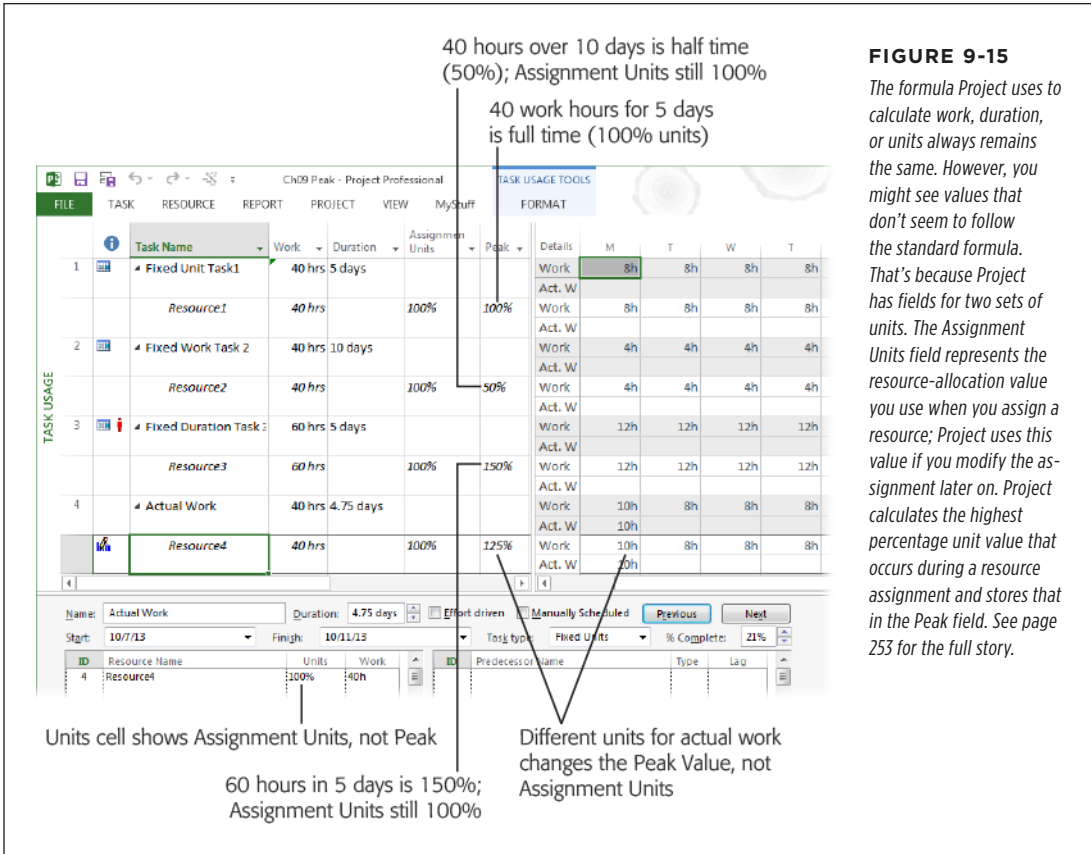

FIGURE 9-15
When you first assign resources to a task, the task's duration is inextricably connected to the work and units of that resource assignment. The formula is simple no matter which variable you want to calculate. The basic algebra you learned in high school is all you need: $\text{Duration} = \text{Work} \div \text{Units}$, so $\text{Work} = \text{Duration} \times \text{Units}$. Project calculates one of these three variables when you set the other two, as you can see in Figure 9-15:
- The **Peak** field, on the other hand, represents the maximum allocation for the resource on the assignment. For example, the third task in Figure 9-15 shows that the resource's maximum allocation to the assignment is only 25%, because the resource works 8 hours over 4 days, even though the initial assignment units were 100%.
TIP It's hard to follow the Assignment Units and Peak action with Project's built-in views and tables. To see what's going on with the Assignment Units and Peak values as you work on assignments, switch to Task Usage view (in the View tab's Task Views section, click Task Usage) and insert an Assignment Unit column and a Peak column into the table, as shown in Figure 9-15.
Consider the task named Actual Work in Figure 9-15 (it's in row 4). Suppose you assign the resource to work 100% of the time on the task, but he works 10 hours the first day. If Project didn't have the Peak field, it would recalculate the resource's Assignment Units to be 125%, based on the duration and work. Then, suppose you add another 40 hours of work to the task. Project would divide the additional work by the 125% Assignment Units value and add another 4 days to the task's duration.
The Peak field also comes into play if you change assignments on tasks set to either the Fixed Duration or Fixed Work task type. Tasks set to the Fixed Units task type don't affect the Peak field. If you use Fixed Work or Fixed Duration tasks to achieve the assignment adjustments you want, you need to understand how the Peak field fits into the picture. Figure 9-15 shows the result of changing tasks set to Fixed Units, Fixed Work, and Fixed Duration task types. They're named Fixed Unit Task 1, Fixed Work Task 2, and Fixed Duration Task 3, respectively. Here's what happens if you change each type of task: